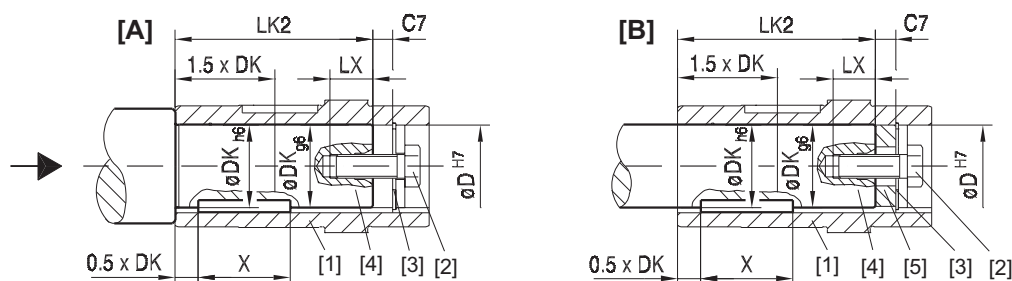

Figure 11: Customer shaft with contact shoulder [A] and without contact shoulder [B]
Applies only if installation/removal kit was previously used for assembly (→ Fig. 11).
3. Place the forcing washer [7] and the locked nut [8] between the customer shaft [4] and circlip [3] according to figure 11.